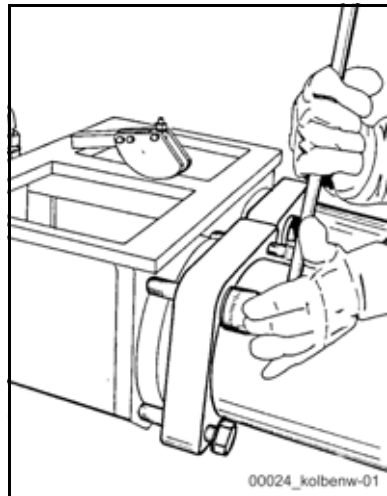

Fig. 324
- Tighten any loose fastening screws crosswise in three steps using a torque wrench (**Fig. 324**).